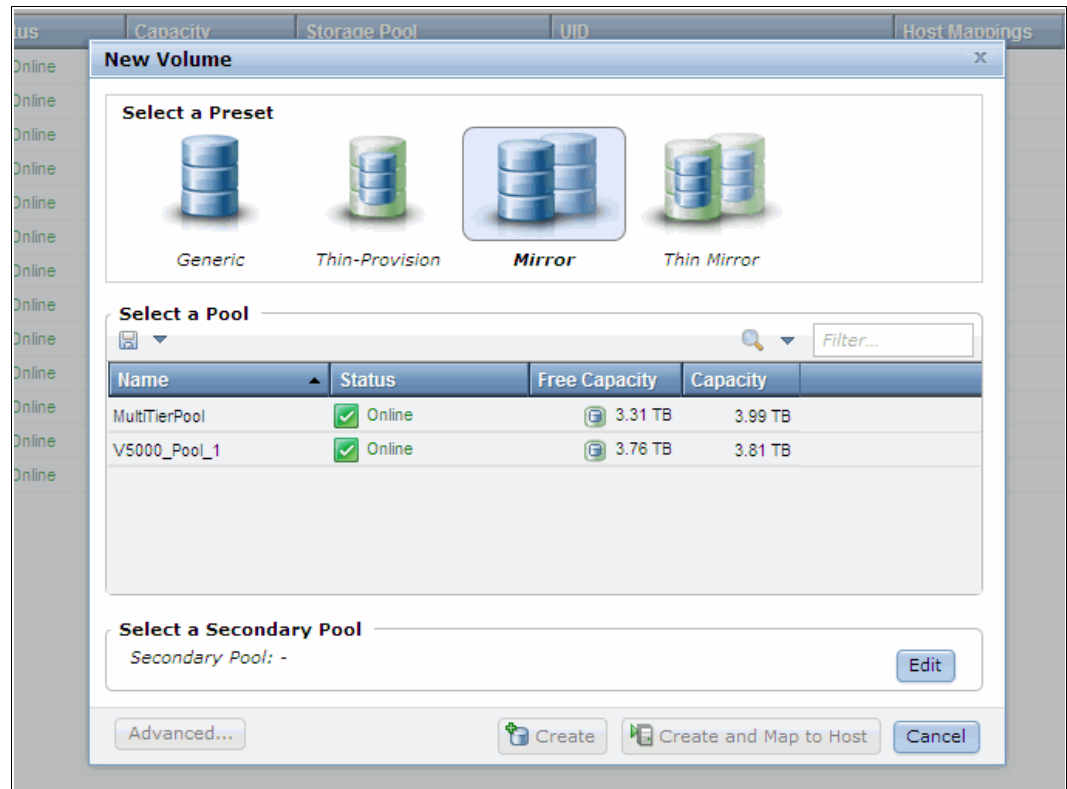

Figure 5-12 Create a mirrored volume
1. Select **Mirror**, as shown in Figure 5-12.